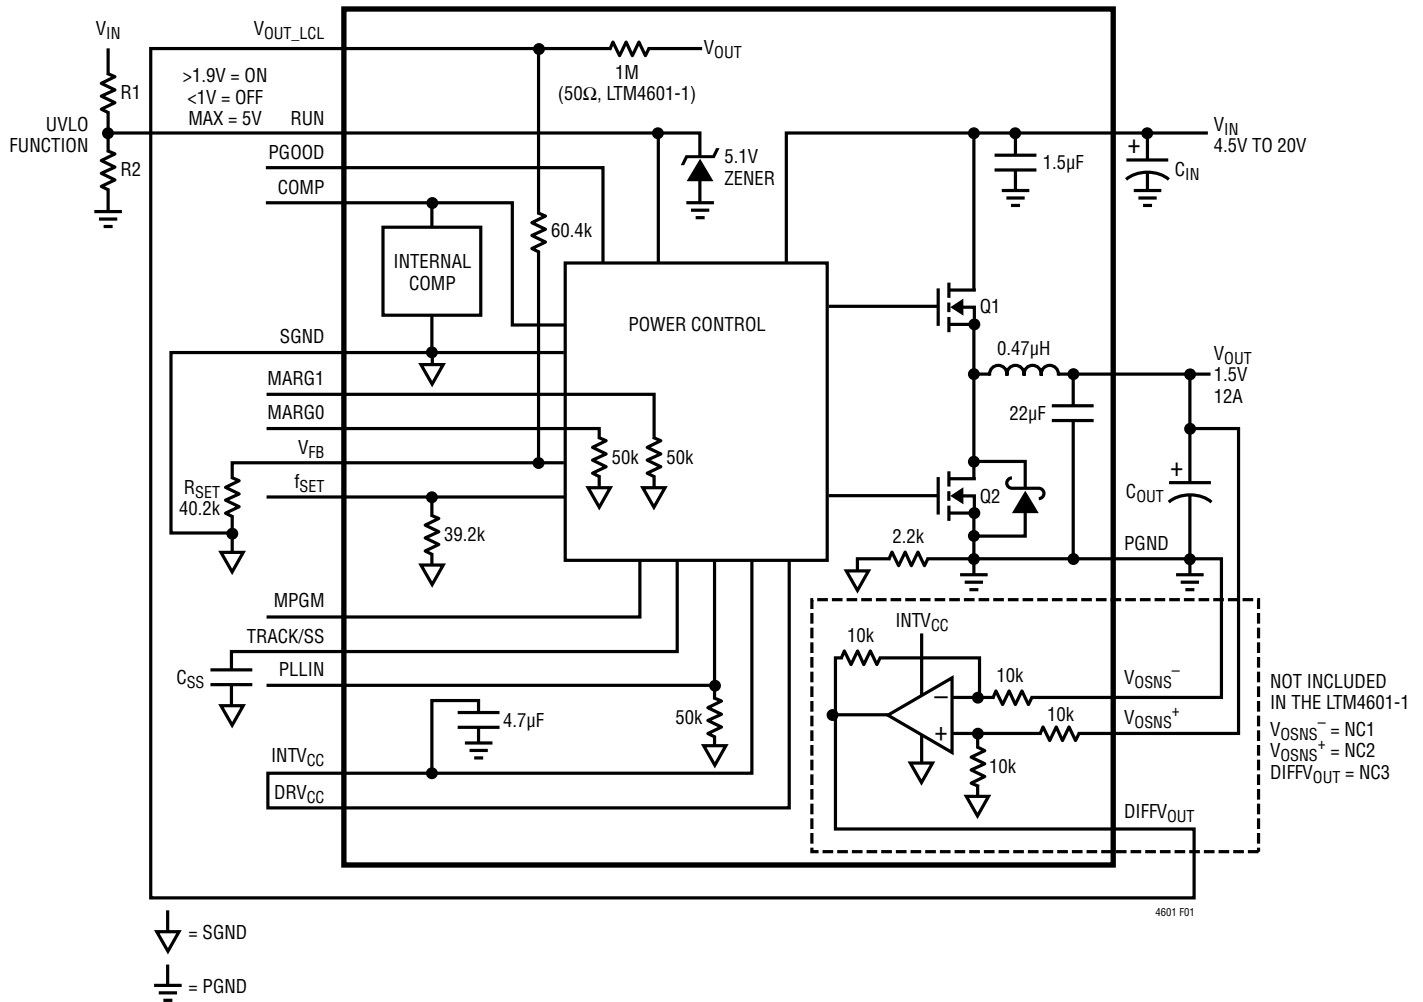

Figure 1. Simplified LTM4601/LTM4601-1 Block Diagram
**RUN (Pin A10):** Run Control Pin. A voltage above 1.9V will turn on the module, and when below 1V, will turn off the module. A programmable UVLO function can be accomplished by connecting to a resistor divider from  $V_{IN}$  to ground. See Figure 1. This pin has a 5.1V Zener to ground. Maximum pin voltage is 5V. Limit current into the RUN pin to less than 1mA.
DECOUPLING REQUIREMENTS  $T_A = 25^\circ\text{C}$ ,  $V_{IN} = 12\text{V}$ . Use Figure 1 configuration.
See Figure 1, Simplified Block Diagram.